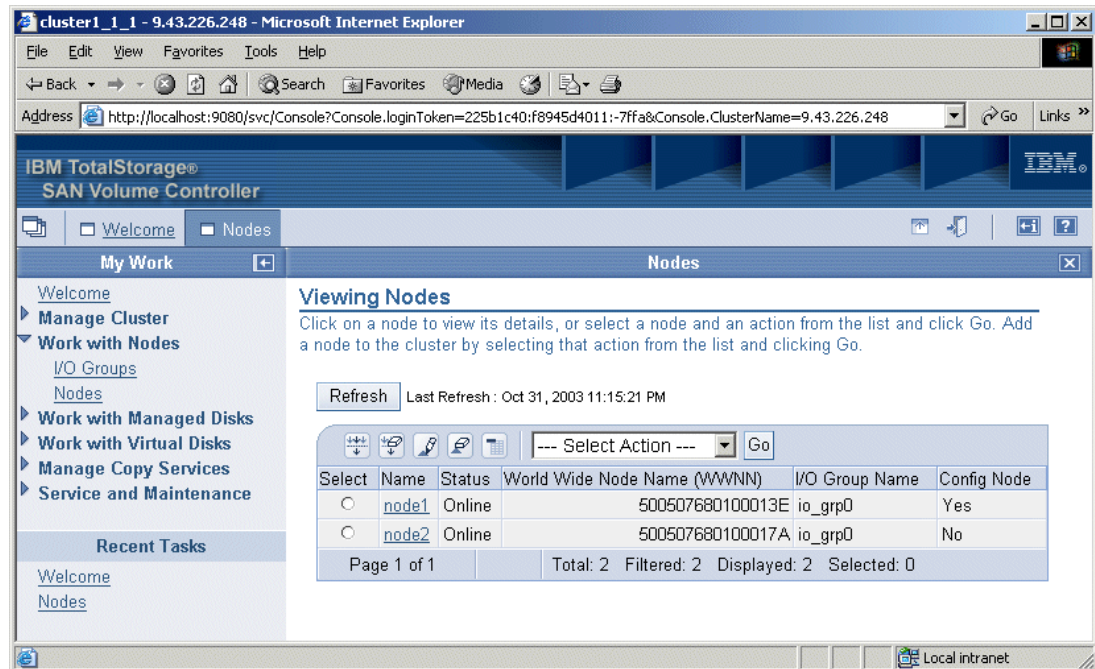

Figure 6-13 Node added successfully
8. You return to the Viewing Nodes panel (Figure 6-13). It shows the status change of the node from Adding to *Online*.